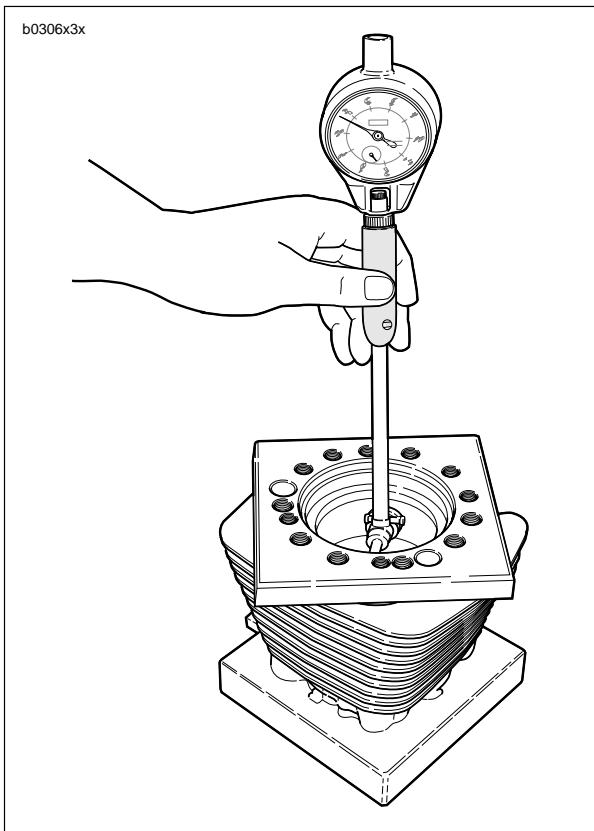

Figure 3-90. Measuring Cylinder Bore Using Torque Plates (Part No. HD-33446B)
2. See Figure 3-90. Install a head gasket, base gasket and o-rings, and CYLINDER TORQUEPLATES (Part No. HD-33446B) and XL EVOLUTION TORQUE PLATE BOLTS (Part No. HD-33446-86). Tighten the bolts using the same method used when installing the cylinder head screws. See 3.6 CYLINDER HEAD.
3. See Figure 3-90. Take cylinder bore measurement in ring path, starting about 0.50 in. (12.7 mm) from top of cylinder, measuring from front to rear and then side to side. Record readings.